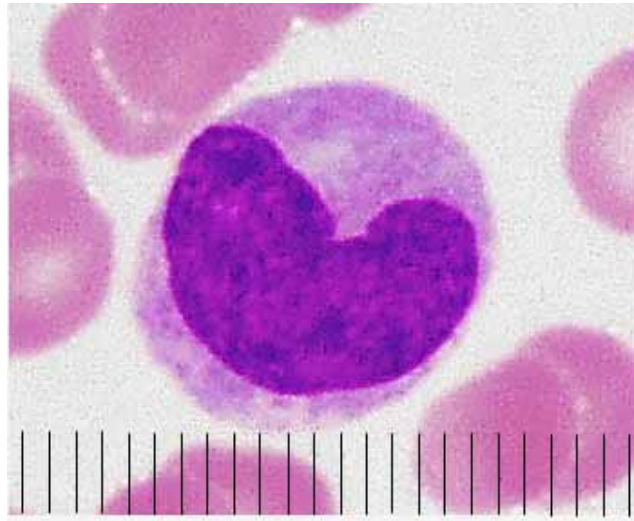

Fig. 2.1
Fig. 2.1 shows the view of a mammalian white blood cell, using an eyepiece graticule and the high-power objective lens of a microscope.
- (d)** Use a table to record **three** observable differences between the blood cell in Fig. 2.1 and the cell you saw in **(a)**.
- (ii) Calculate the magnification of the blood cell in Fig. 2.1.